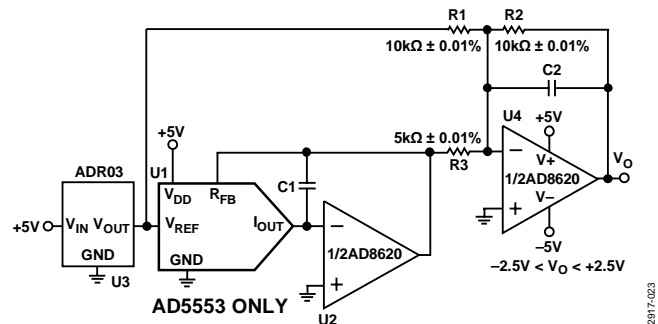

Figure 22. 4-Quadrant Multiplying Application Circuit
In some applications, it may be necessary to generate the full 4-quadrant multiplying capability or a bipolar output swing, which is easily accomplished by using an additional U4 external amplifier configured as a summing amplifier (see Figure 22). In this circuit, the second amplifier, U4, provides a gain of 2 that increases the output span magnitude to 5 V. Biasing the external amplifier with a 2.5 V offset from the reference voltage results in a full 4-quadrant multiplying circuit. The transfer equation of this circuit shows that both negative and positive output voltages are created as the input data (D) is incremented from code zero ( $V_{OUT} = -2.5$  V) to midscale ( $V_{OUT} = 0$  V) to full-scale ( $V_{OUT} = +2.5$  V).